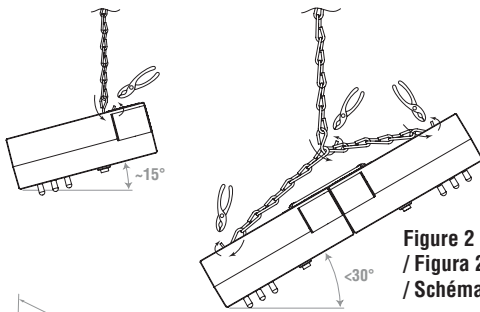
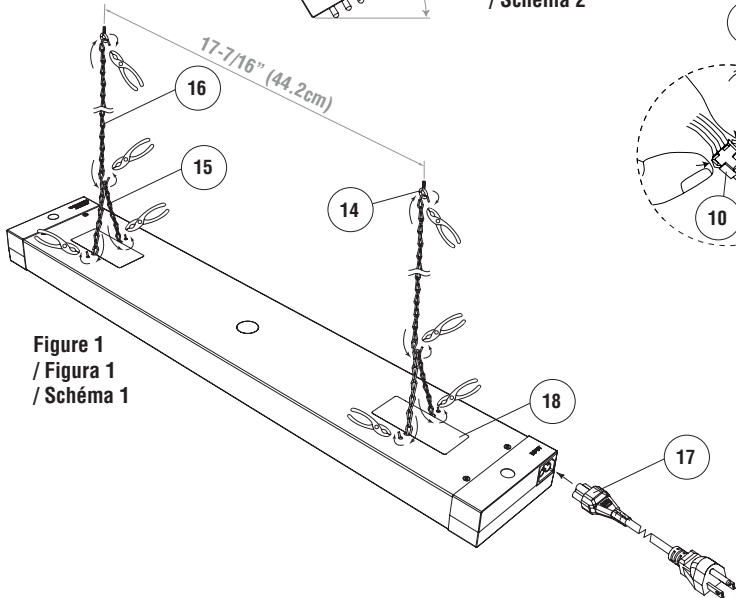

Figure 2
Figure 1
- Determine if product will be installed using Plug-In Installation Method (see Figure 1) or Direct Wire Installation Method (see Figure 2).
- Mark the mounting hole locations (see Figures 1, 6-8).
- Install S-hooks on end of 5" Chains (15) through the outer slots and holes on back of Housing(s) (1). Crimp open ends of S-hooks (see Figure 1).
- Install Screw Eyes or Hooks (14) into ceiling joist or sturdy wooden surface.